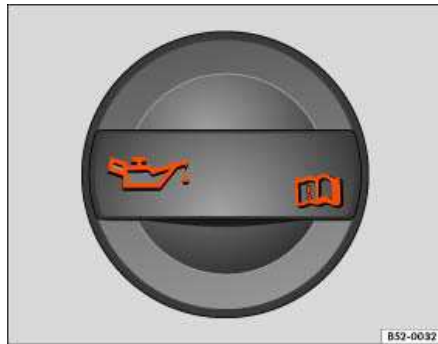

Fig. 166 In the engine compartment: Engine oil filler cap.
4. Find the oil filler opening and the dipstick. You can identify these by the 🛢️ symbol on the engine oil filler cap ⇒ fig. 166 and the colored handle on the dipstick. If you are not sure where the cap and the
9. Remove the cap on the engine oil filler opening ⇒ fig. 166.